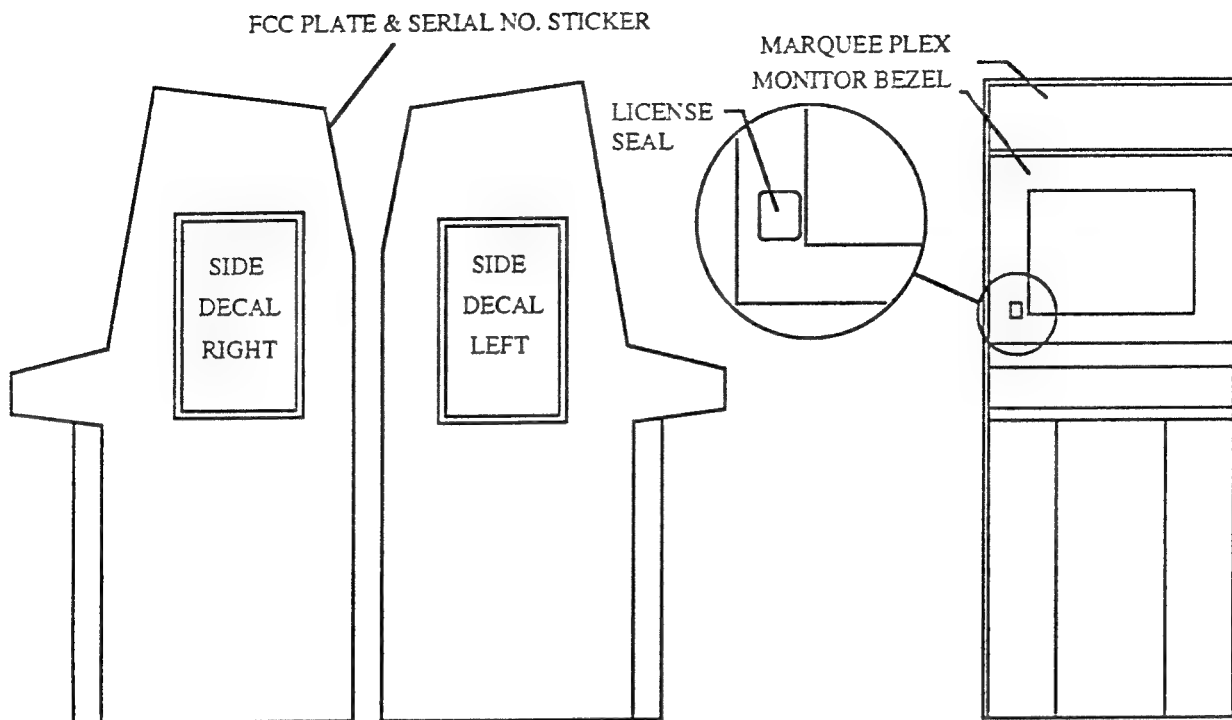

Figure 1
2. Locate the SIDE DECALS and install on the left and right side panels of the (see figure 1). Note: A mixture of slightly soapy water can be used on the cabinet to position the artwork as desired. A squeegee may be used to remove any wrinkles in the artwork if soapy water is used.
3. Locate the MARQUEE PLEX and measure the size of existing marquee plex or required size to fit and trim the marquee plex to size. Install on cabinet. (see figure 1)
29. Locate the Kit SERIAL NUMBER STICKER and FCC PLATE. Install these on the rear of the game cabinet. (see figure 1)